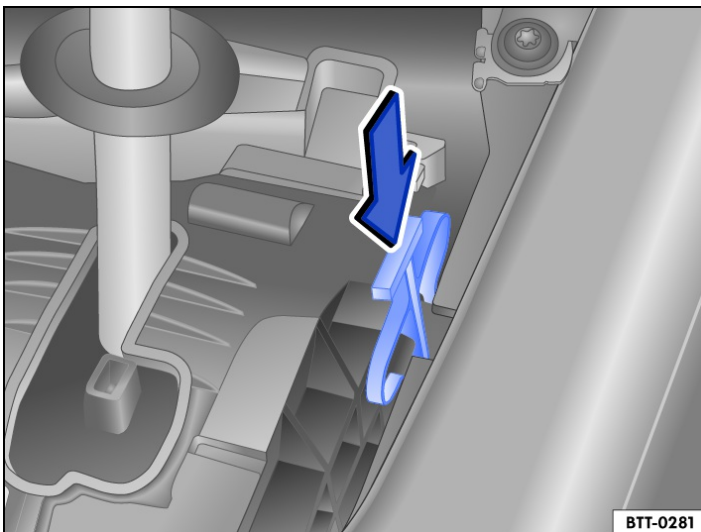

Fig. 2 Manually release selector lever lock(variant 2)
- OR: push the release lever in the direction of the arrow → *Fig. 2* and hold it in this position (variant 2).